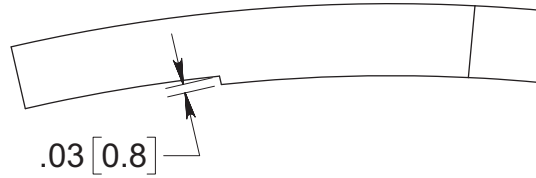

Figure 3: Pinion retainer undercut (DT12930)
7. Measure the pinion retainers undercut (DT12930). See Figure 3.